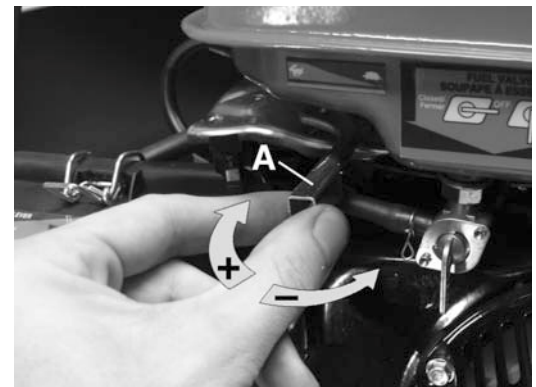

Figure 10
The water pressure is regulated by the throttle lever (A) Fig.10. Moving the throttle lever towards the left will increase the engine speed and thus increasing the water pressure. Moving the throttle lever towards the right will decrease the engine speed and thus decreasing the water pressure.
- 4) If the throttle lever (A) Fig.10 is not in the fast position, the injection of the detergent may be decreased or stop completely, in this case, move the throttle lever towards the left to increase engine speed and pressure.